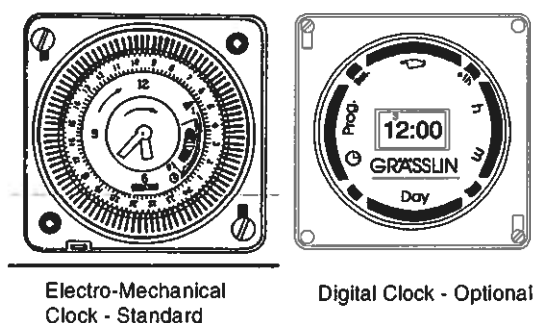

Figure 1.5 Front Panel Mounted
7. Electro-mechanical clock (Figure 1.5) to control the space heating (in conjunction with room thermostat-if fitted).
- A seven-day digital clock/programmer (Figure 1.5) to control the space heating (in conjunction with a room thermostat if fitted).
- A kit to site the clock/programmers shown in Figure 1.5 remotely.